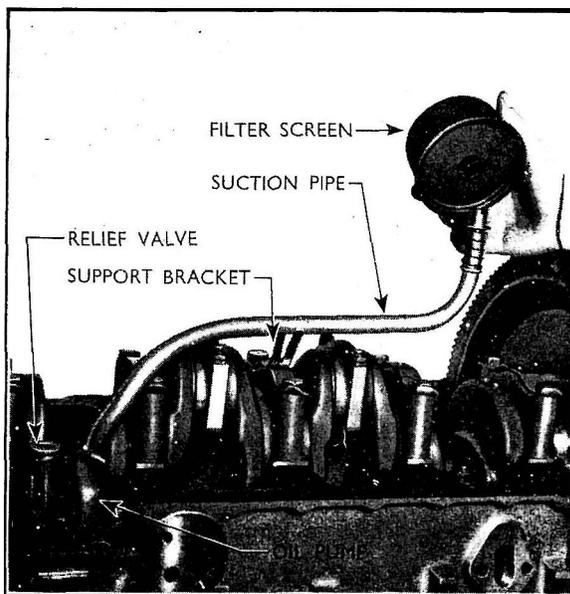

Fig. 17
19. Remove the oil pump filter screen, see Fig. 17, straighten the tabs on the suction pipe union locking plate and unscrew the union nut. Remove the suction pipe support bracket screw which is located in the centre main bearing cap, and detach the pipe from the pump.